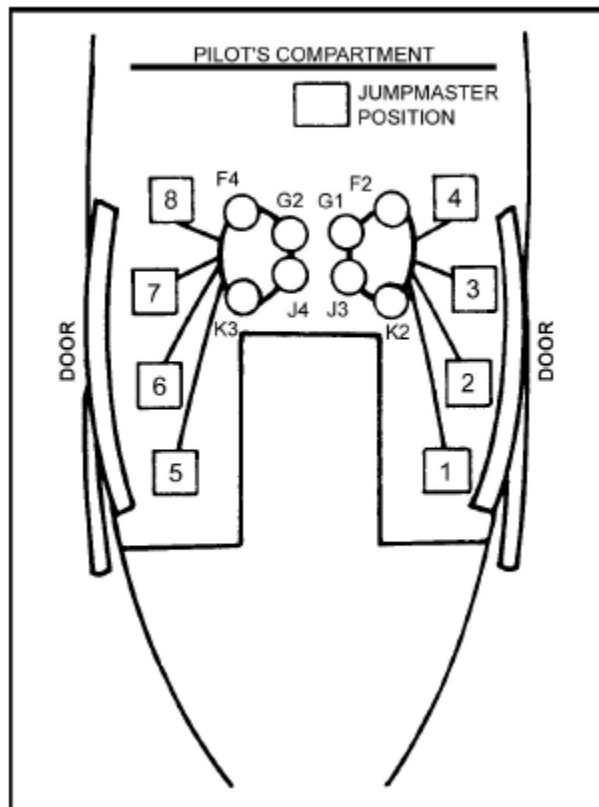

Figure 3. UH-1 seating configuration, expedient anchor line system.
- c. Anchor Line Assembly Installation. An anchor line assembly is installed on each side of the aircraft. It can be installed quickly by means of four tie-down rings located on the floor on the right and left sides of the aircraft compartment. The A-7A strap is threaded through the D-rings, which are used for attachment of the static line snap hooks (Figure 3).
- (1) *Left door.* For the left door, one connector snap on the A-7A strap is attached to the tie-down ring number G2. The strap is connected to the tie-down ring number F4. Four D-rings are on the strap with the round part of the rings facing outboard (of aircraft). The strap is then connected to tie-down ring number K3 and tie-down ring number J4. The free end of the strap is secured to the strap fastener, and any excess between tiedown rings number J4 and number G2 is taped. All connector snaps must be safety wired.
- (2) *Right door.* The same procedures apply to the right door as the left except that the A-7A strap is attached to tie-down ring number G1, then to F2. Four D-rings are on the strap with the round part of the rings facing outboard (of aircraft). The free end of the strap is secured to tie-down rings number K2 and number J3, and the strap fastener is secured. Excess strap between tie-down rings number J3 and number G1 is taped.
- (1) A minimum of one CE and one JM will be utilized for all parachute operations. During Static Line operations, the JM will be Static.
- (2) FE/CE and JM harness restraint equipment will be fastened to a floor tie down at all times while the aircraft is airborne.
- (3) During loading, jumpers should not approach directly from the front or sides but at a 45-degree angle to the nose of the aircraft., stop outside the rotor disc area and wait for JM and/or CE signal to board. PC will advise JM when to board. Jumpers 1 through 4 enter the cargo compartment through the right door, are hooked up by the JM in numerical order, and seat themselves (Figures 3 and 4). Jumpers 5 through 8 enter the cargo compartment through the left door, are hooked up by the JM in numerical order, and seat themselves.